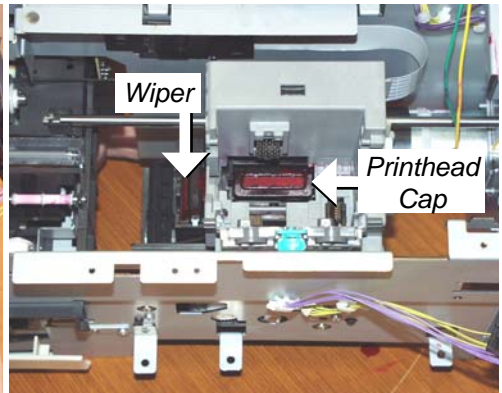
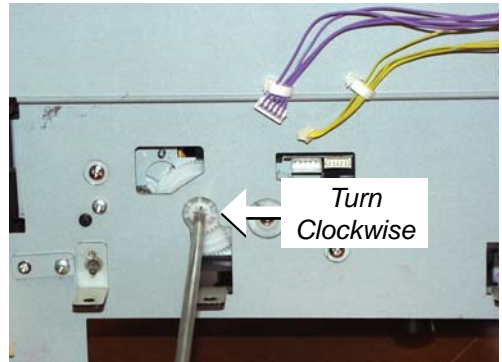

Figure 5-36 Carriage Home Position
Figure 5-37 Turn Gear **Clockwise** until Printhead Lock and Wiper are Fully DOWN
4. Make sure carriage is home. In this position the carriage is located above the purge unit and you should be able to see the printhead cap as shown in Figure 5-36.
5. Turn purge unit gear clockwise as shown in Figure 5-37, right, until printhead lock and wiper are fully DOWN. See Figure 5-36, above right.